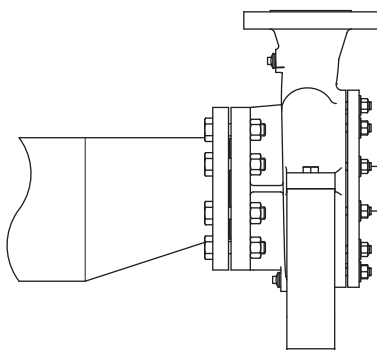

Figure 3: Eccentric reducer to suction flange.
- The passage of the suction pipe must be amply dimensioned. This pipe should be as short as possible and run towards the pump in such a way that no air pockets can arise. If this is not possible, a venting facility should be provided at the highest point of the pipe. If the inside diameter of the suction pipe is larger than the suction connection of the pump, an eccentric reducer should be applied to prevent air pockets and whirls. See figure 3.